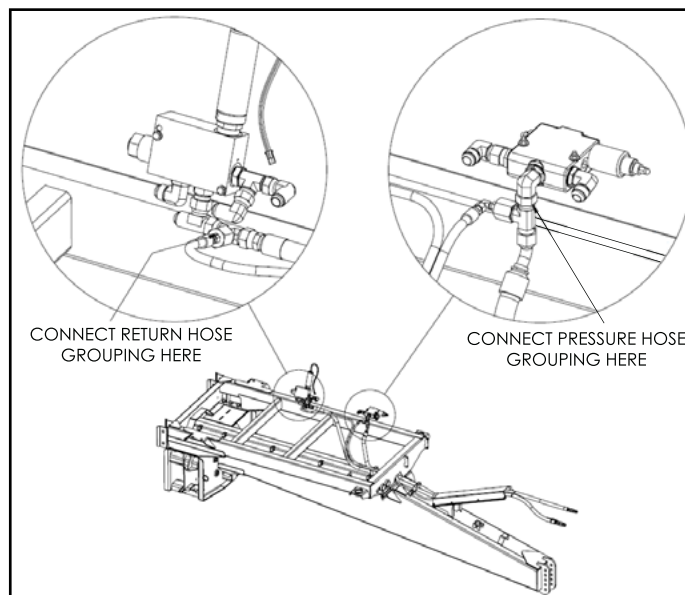

Figure 5 - Connect groupings
2. Connect pressure hose grouping and return hose grouping (Figure 5).